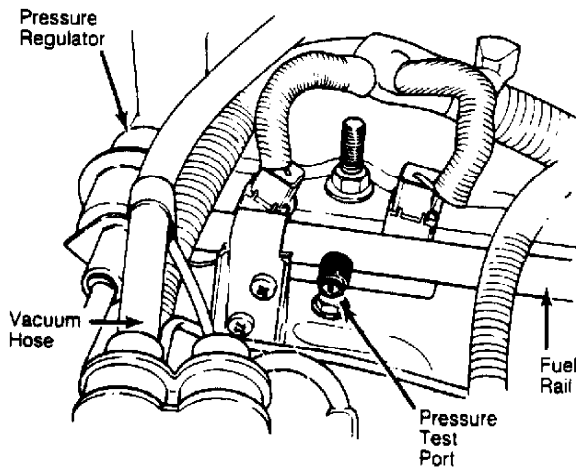

Fig. 1: Fuel System Pressure Test Components
1) Remove the cap from the pressure test port located in the fuel rail. See Fig. 1. Connect Fuel Pressure Gauge (J-34730-1) to the pressure fitting.